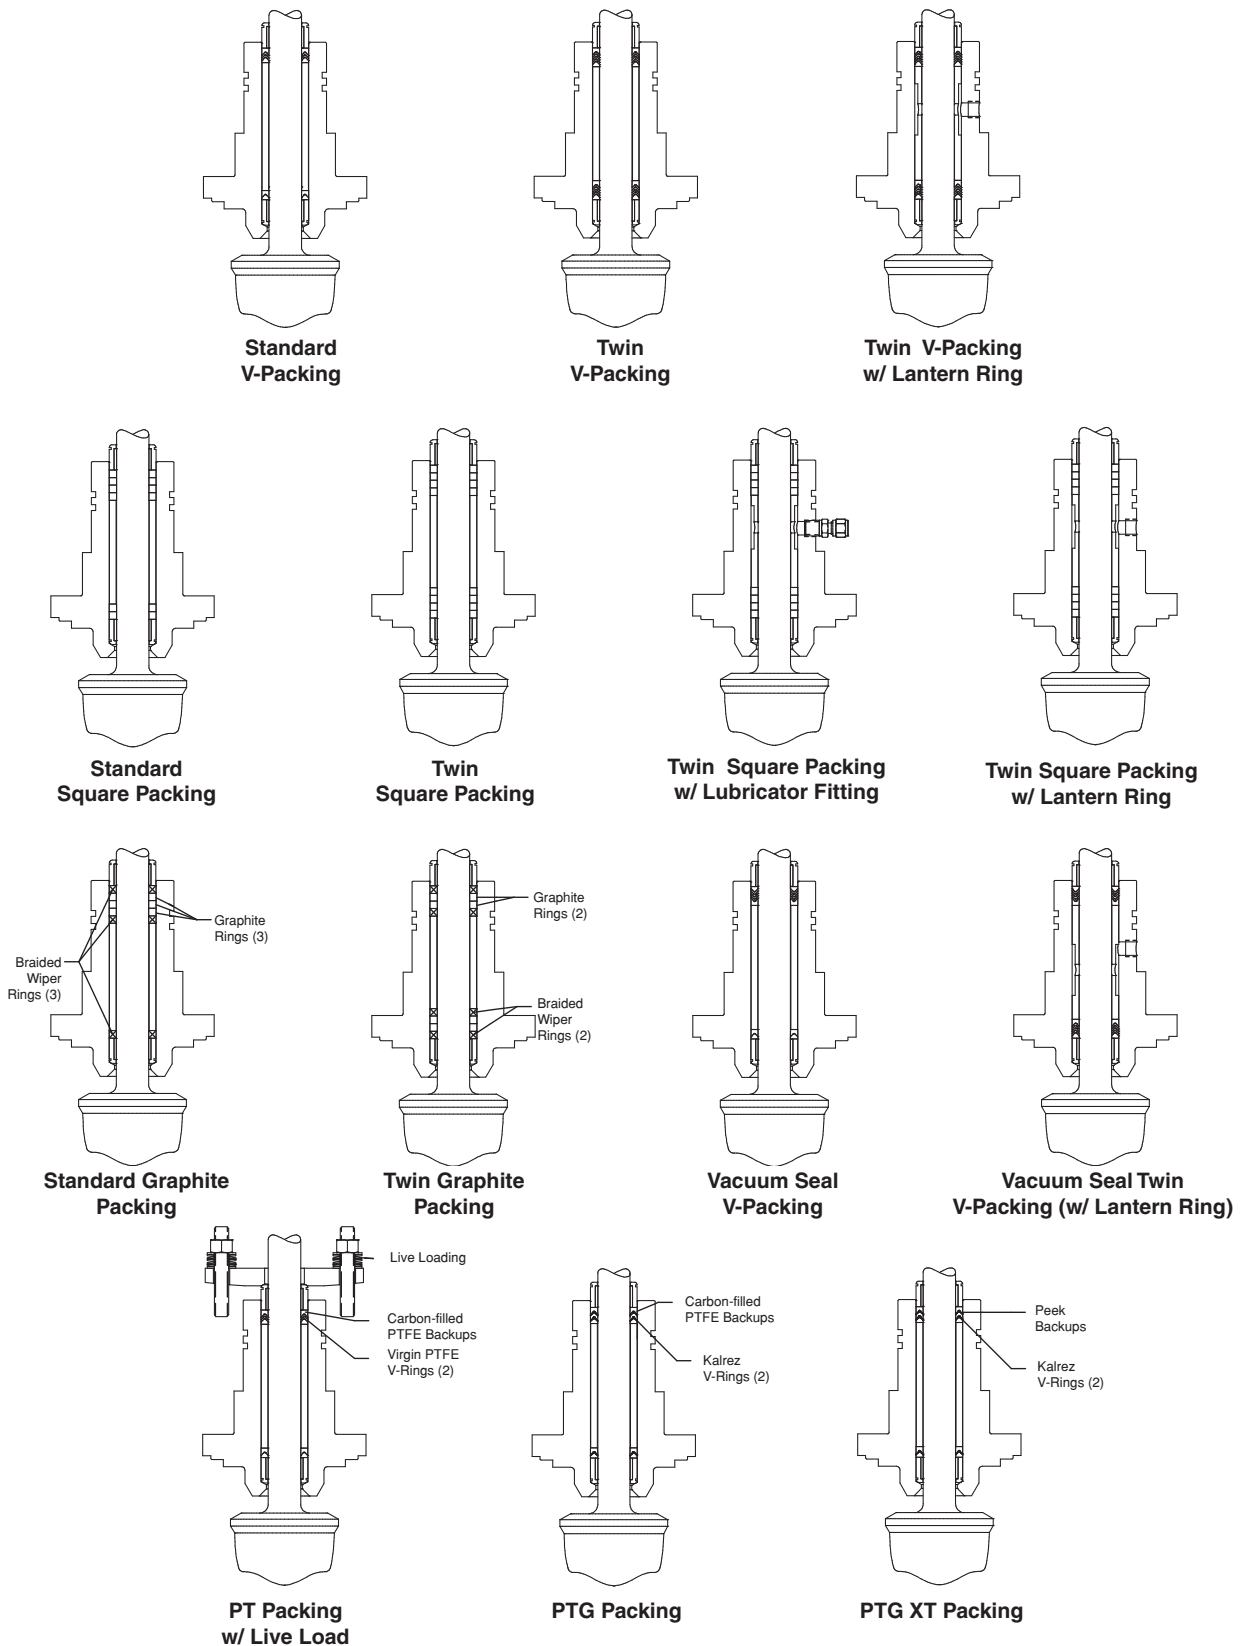

Figure 4 - Typical Packing Configurations
- If the packing set has been removed, refer to Figure 4 and reassemble new packing set exactly as indicated. When reassembling the packing set into the bonnet, make sure that a gap of at least 1/8 in. (3.2 mm) is left on the top of the packing